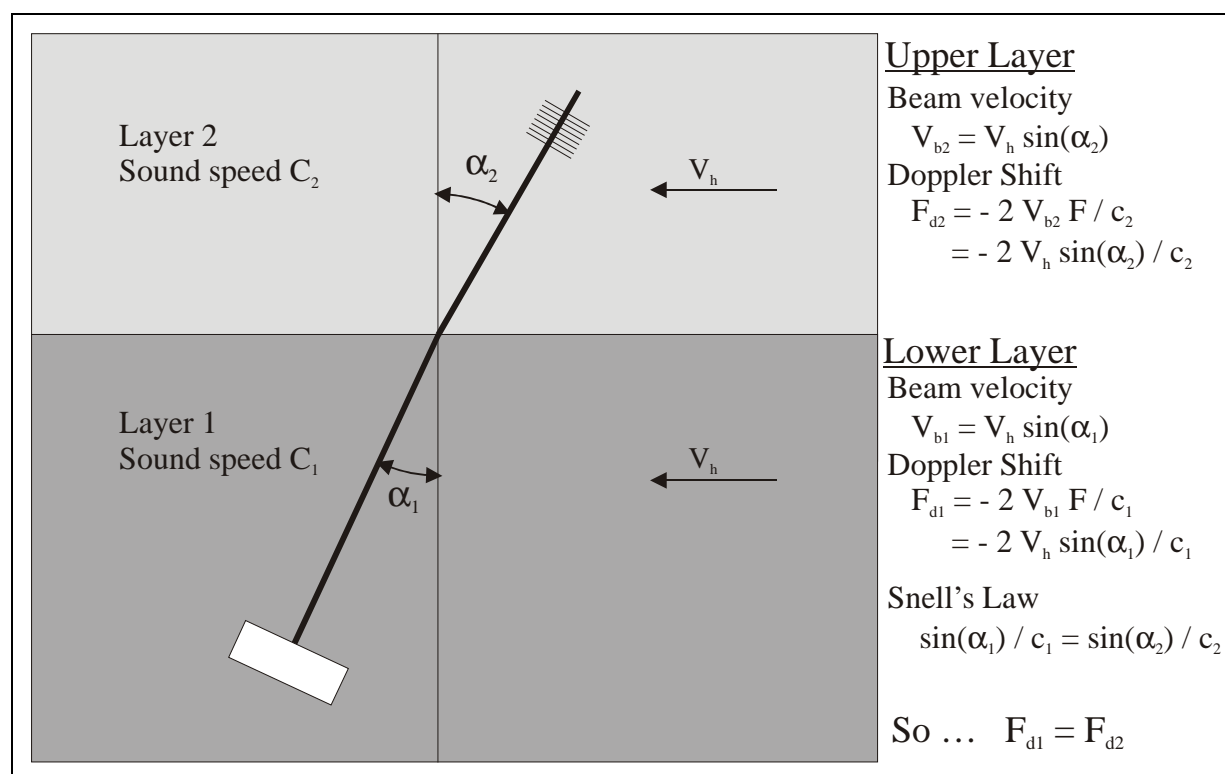

Figure 8 – ADP Operation in Stratified Flow
A common question is how a stratified water column (changes in sound speed with depth) affects ADP operation. Figure 8 illustrates this question.
- Figure 8 shows the measured Doppler shift for an identical horizontal velocity in two layers.